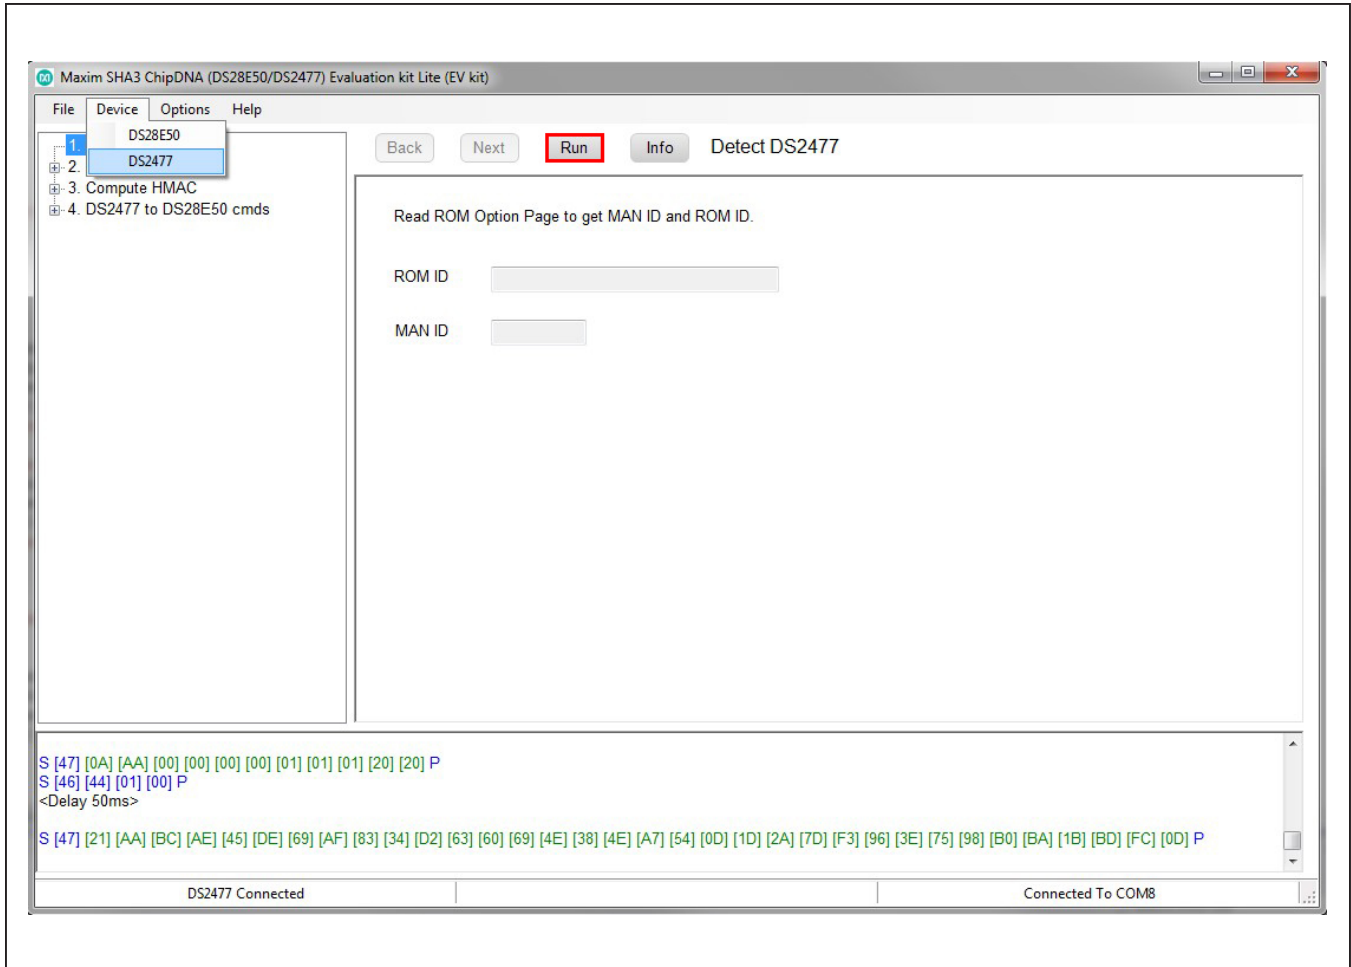

Figure 11. DS28E50 EV Kit Main Program Screen. Choose a Device from the Device Pulldown Menu.
- 9) Choose the DS28E50 or DS2477 under the **Device** tab, shown in Figure 11 and click **Run** to complete the detection process.